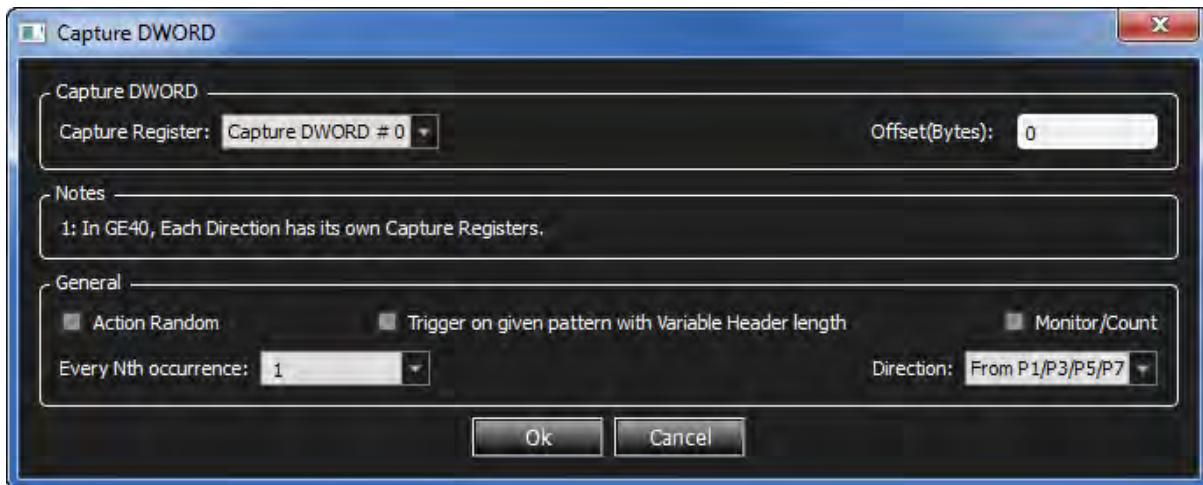

Figure 6.42: Capture Data DWORD Action
1. To capture a data DWORD, select **Capture DWORD** from the Action Properties screen (Figure 6.42).